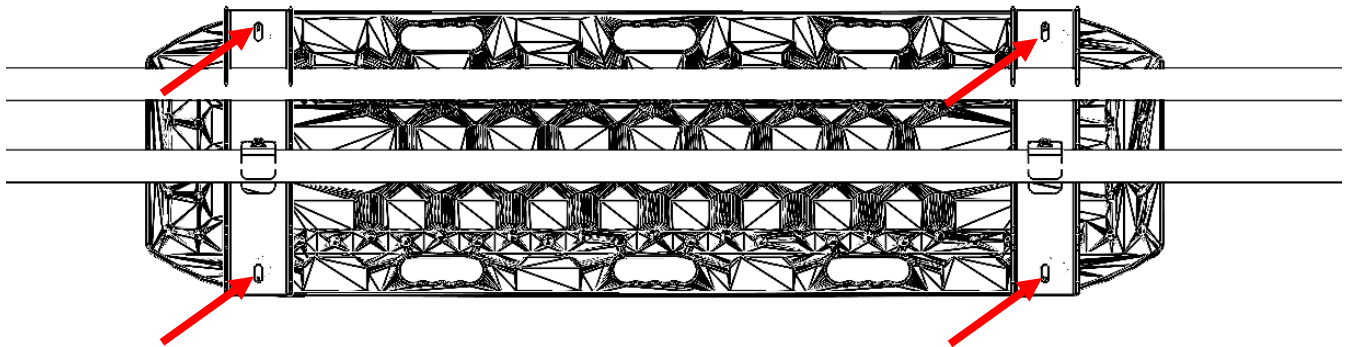

Figure 4: Installing MaxTrax Boards Directly to Brackets
4. MaxTrax Mounting Option 2: Use the MaxTrax mounting pins to mount the MaxTrax traction boards directly to the mounting brackets as shown in Figure 4.